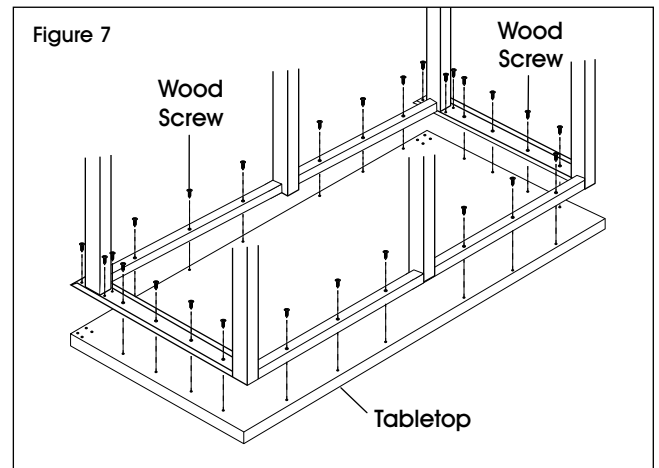

Figure 7
2. Rotate assembled frame upside down and align with pre-drilled holes in tabletop. Using #28 blunt-end wood screws and drill with flathead drill bit, attach frame to underside of tabletop. (See Figure 7)